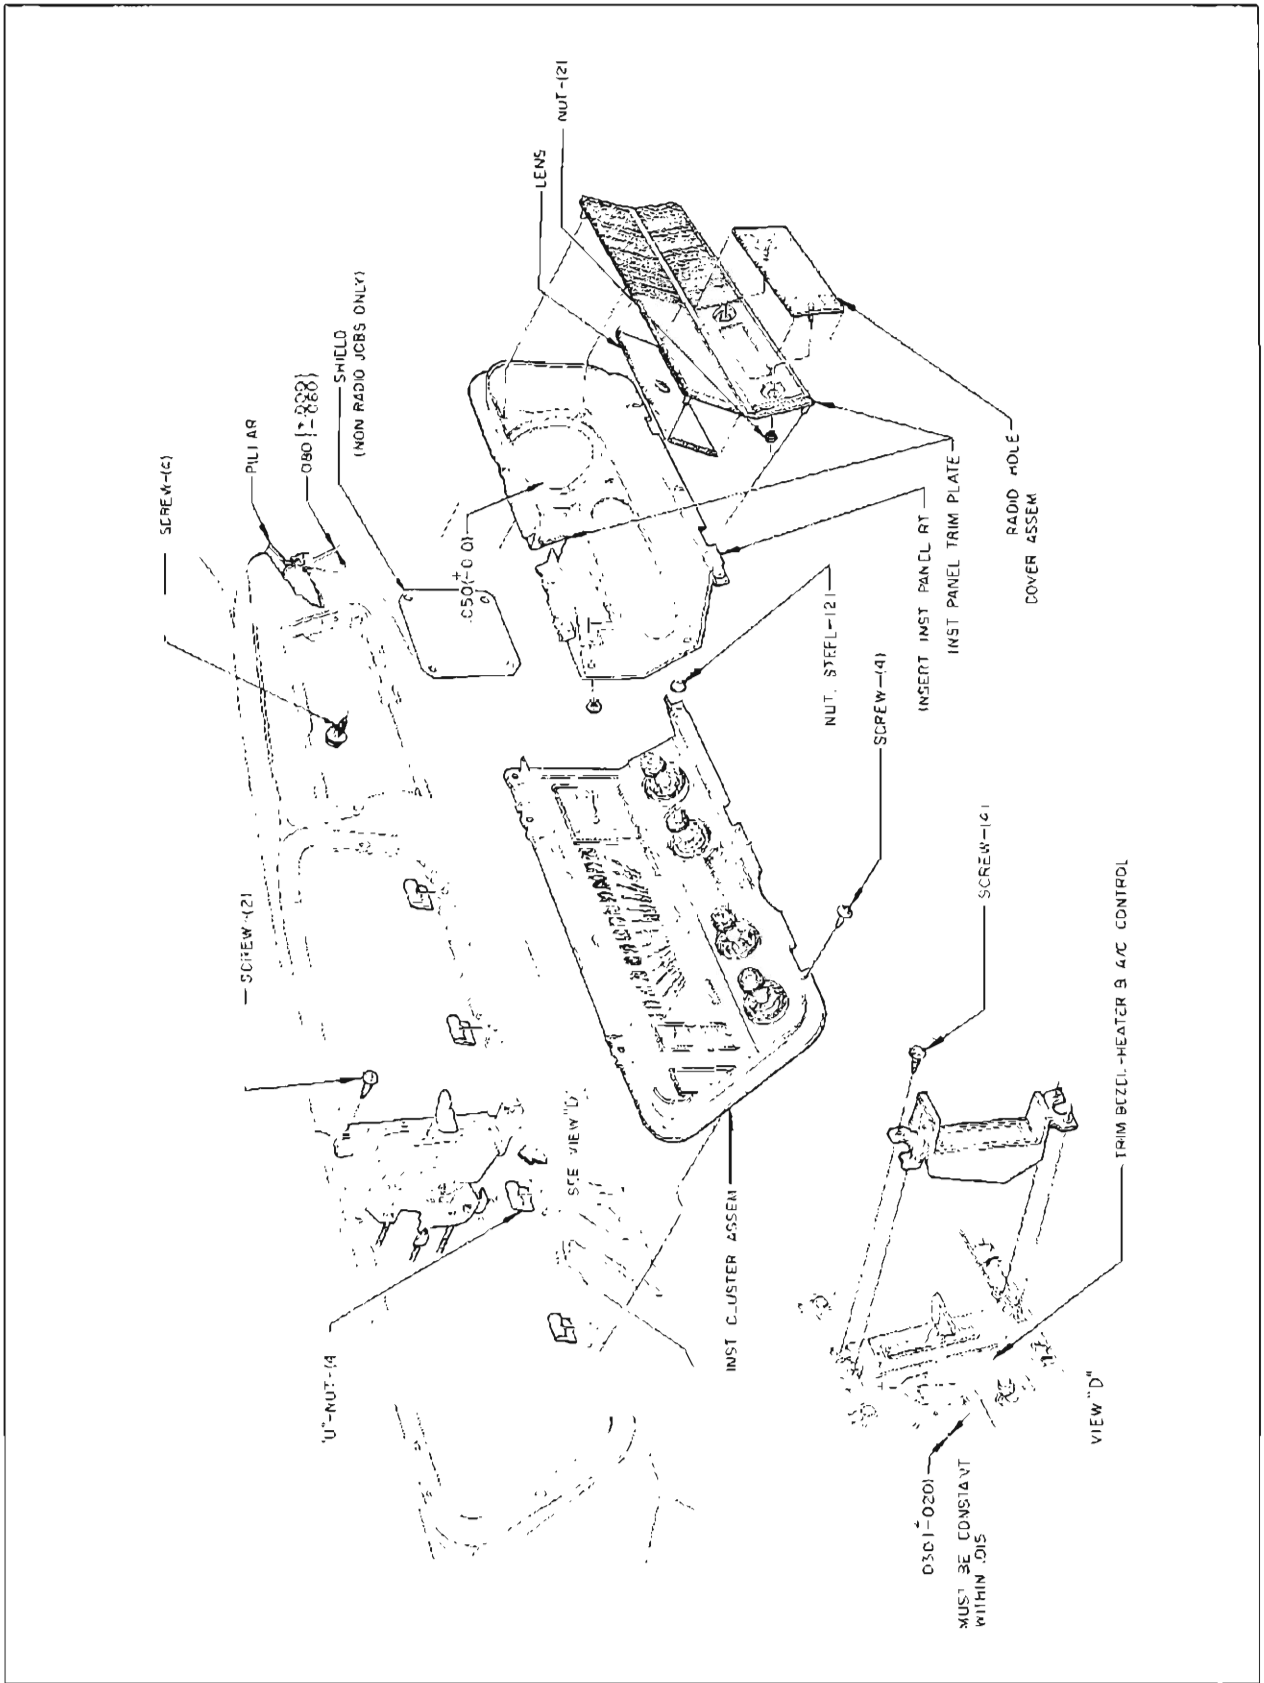

Figure 10-65—Instrument Cluster and Right Insert Installation
2. Remove heater control trim bezel by removing four screws from corners. See Figure 10-65.